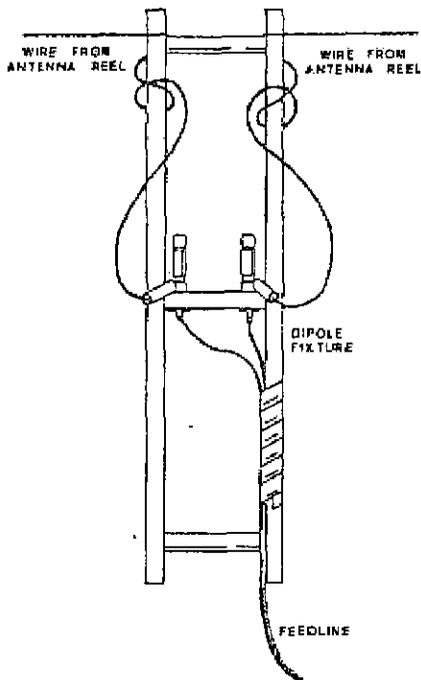

Figure 2-8. Assembling antenna wires to dipole fixture
- 2) Mount one end of each dipole wire on the dipole fixture; use strain relief loops when connecting the wires (Figure 2-8).